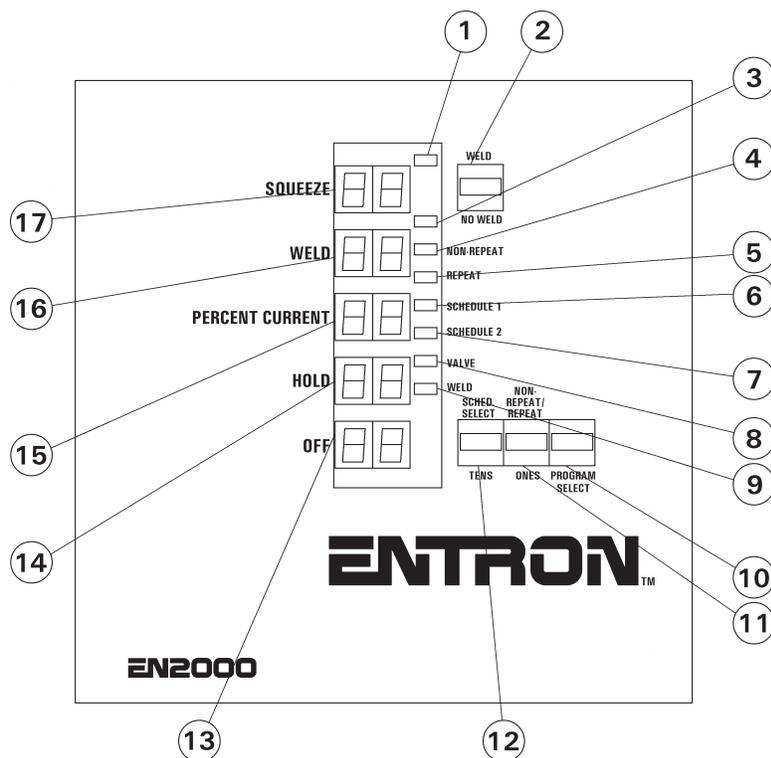

Figure 2-1. Control Panel layout
2.1 CONTROL FUNCTIONS – See Figure 2-1. *Control Panel layout*